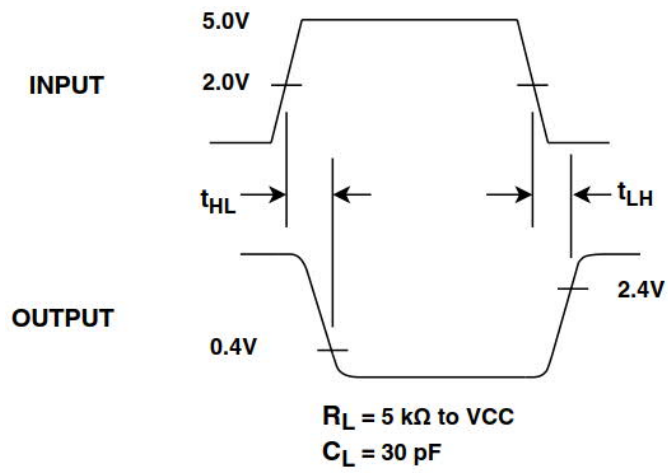

Figure 10 Input to Output Delay
4. See Figure 10. The delay is due to both the on-chip filter circuits and VDD.